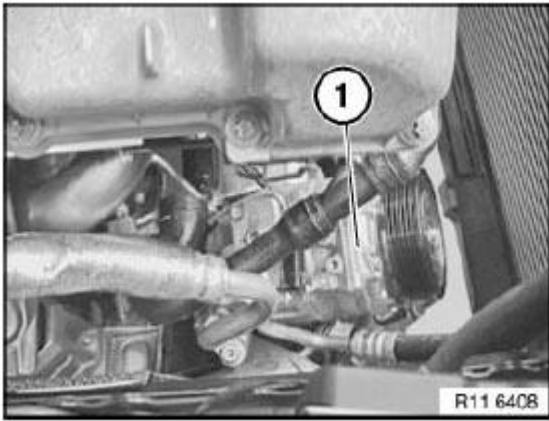

Fig. 2: Identifying Air Conditioning Compressor
Release air-conditioning compressor (1) and set down on front axle carrier. See **Fig. 2**.